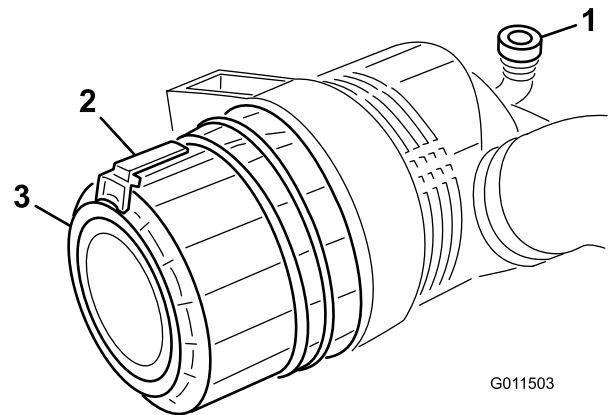

Figure 71
1. Pull the latch outward and rotate the air cleaner cover counterclockwise (Figure 71).
7. Install the cover orienting the rubber outlet valve (Figure 71) in a downward position - between approximately 5:00 to 7:00 when viewed from the end. Secure the latch.